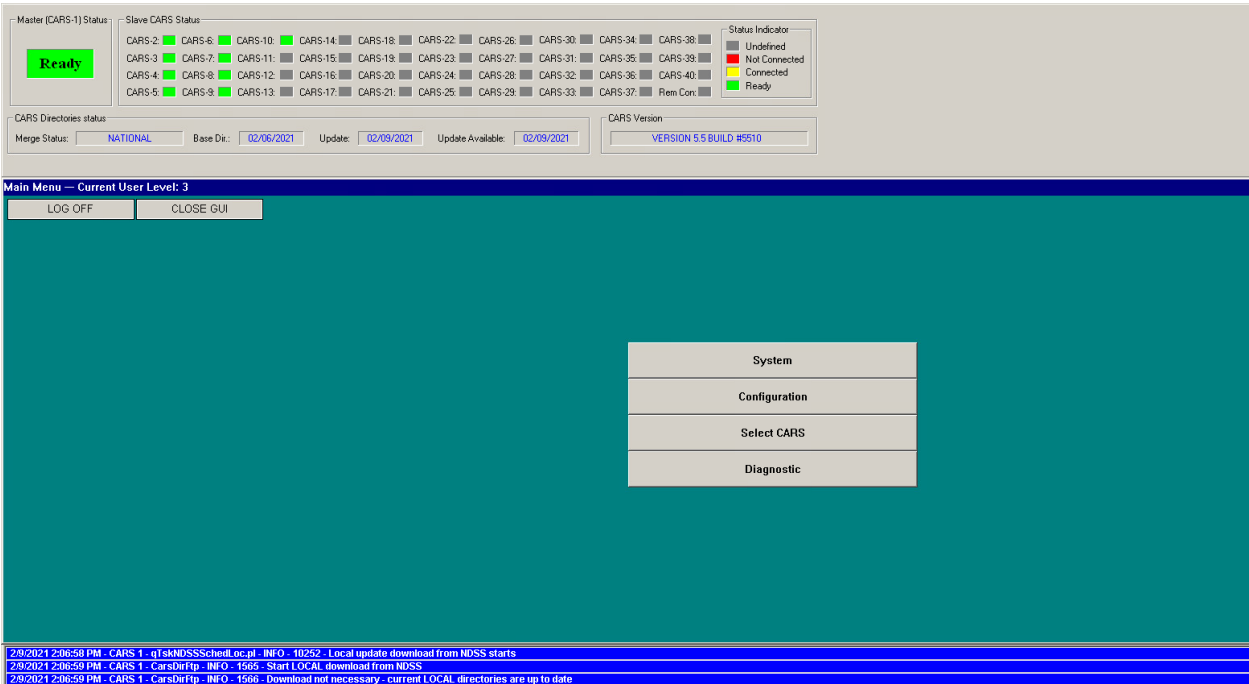

Figure 4-5. Main Menu, All CARS Ready
2. Log on to the master CARS UI (Main menu Figure 4-5).